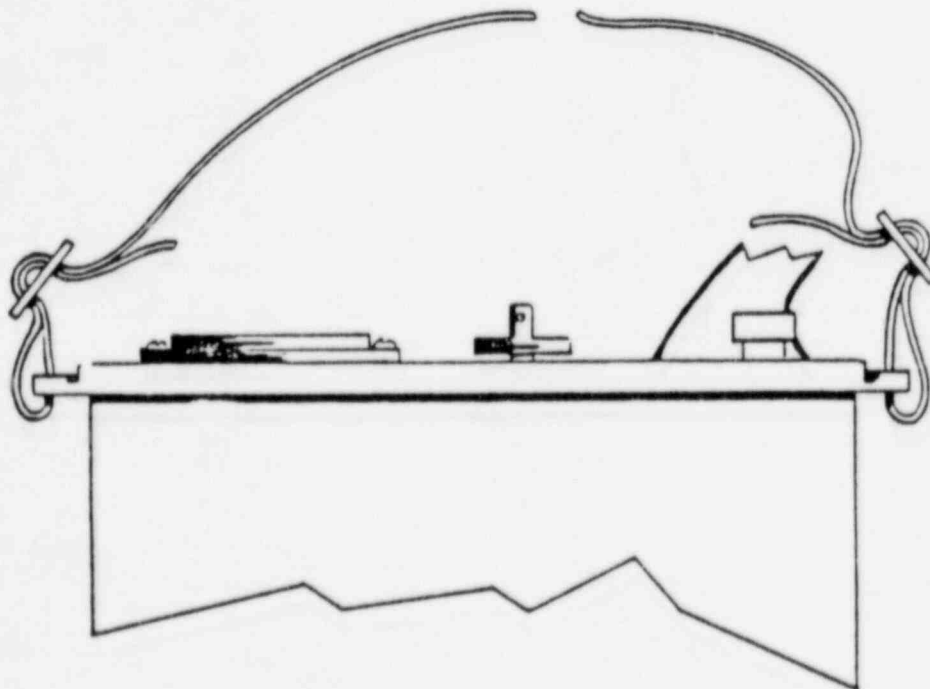

Figure 2 . Attachment of Carrying Strap
2.5 Use of Carrying Strap - A vinyl, easy de-contaminable carrying strap with its attaching strap buckles is provided. The strap anchors are arranged in such a way that the meter is unobstructed when the instrument is carried from the shoulder. Refer to Figure 2.